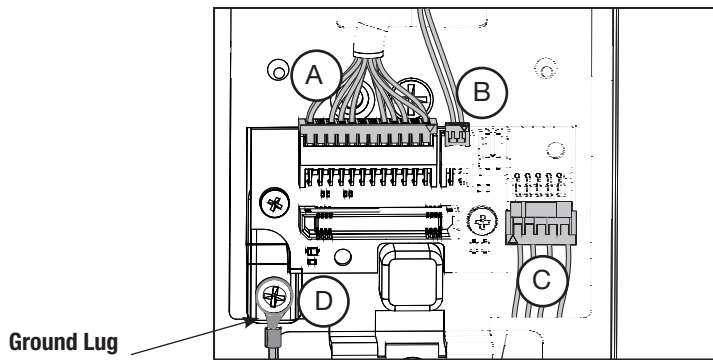

Fig. 10D
- Secure ground lug to #6-32 machine screw (Fig. 10D).